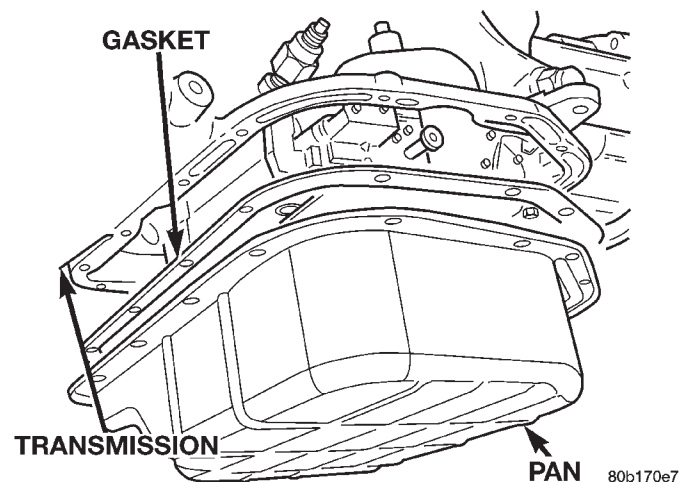
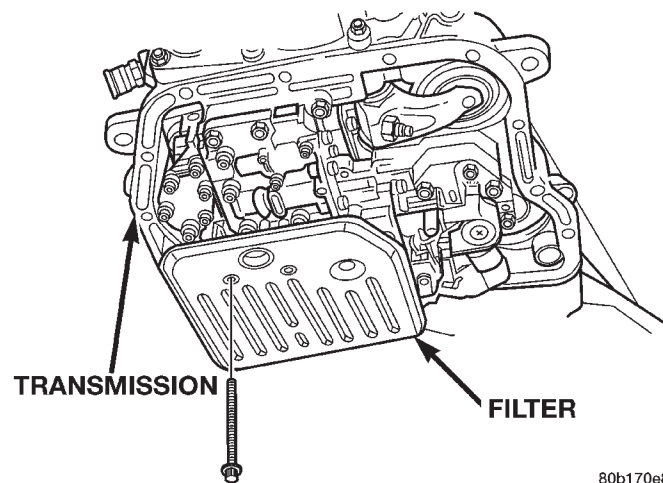

Fig. 14 Transmission Pan
Fig. 15 Transmission Filter
- (1) Hoist and support vehicle on safety stands.
- (2) Place a large diameter shallow drain pan beneath the transmission pan.
- (3) Remove bolts holding front and sides of pan to transmission (Fig. 14).
- (4) Loosen bolts holding rear of pan to transmission.
- (5) Slowly separate front of pan away from transmission allowing the fluid to drain into drain pan.
- (6) Hold up pan and remove remaining bolts holding pan to transmission.
- (7) While holding pan level, lower pan away from transmission.
- (8) Pour remaining fluid in pan into drain pan.
- (9) Remove screws holding filter to valve body (Fig. 15).
- (10) Separate filter from valve body and pour fluid in filter into drain pan.
- (11) Dispose used trans fluid and filter properly.
(1) Place replacement filter in position on valve body.
(2) Install screws to hold filter to valve body (Fig. 15). Tighten screws to 4 N·m (35 in. lbs.) torque.
(3) Place new gasket in position on pan, and install pan on transmission.
(4) Place pan in position on transmission.
(5) Install screws to hold pan to transmission (Fig. 14). Tighten bolts to 17 N·m (150 in. lbs.) torque.
(6) Lower vehicle and fill transmission with Mopar® ATF Plus 3, type 7176 fluid.